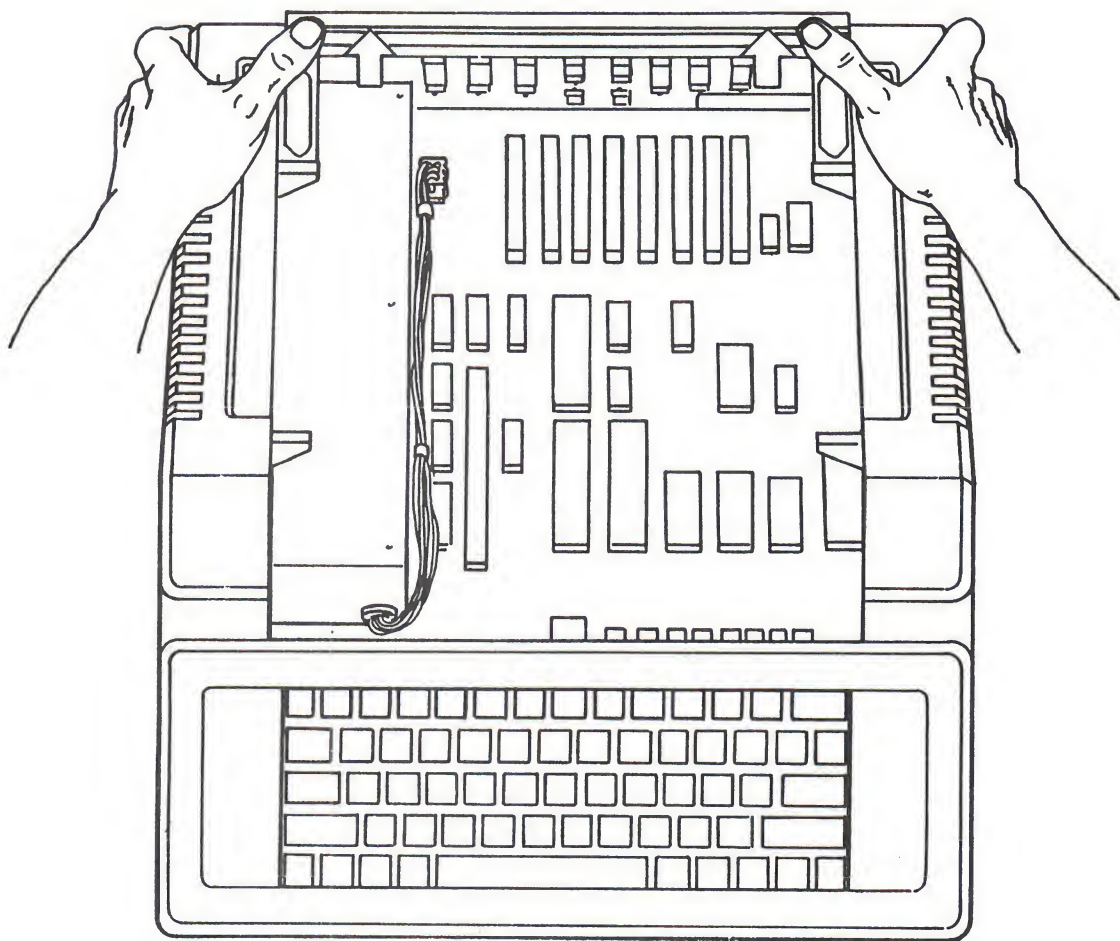

FIGURE 7
6. To free the housing on older versions, push back on the thin metal back plate until it is free from the horizontal bar which is part of the housing (See Figure 7, #1). Gently lift the housing off the base.